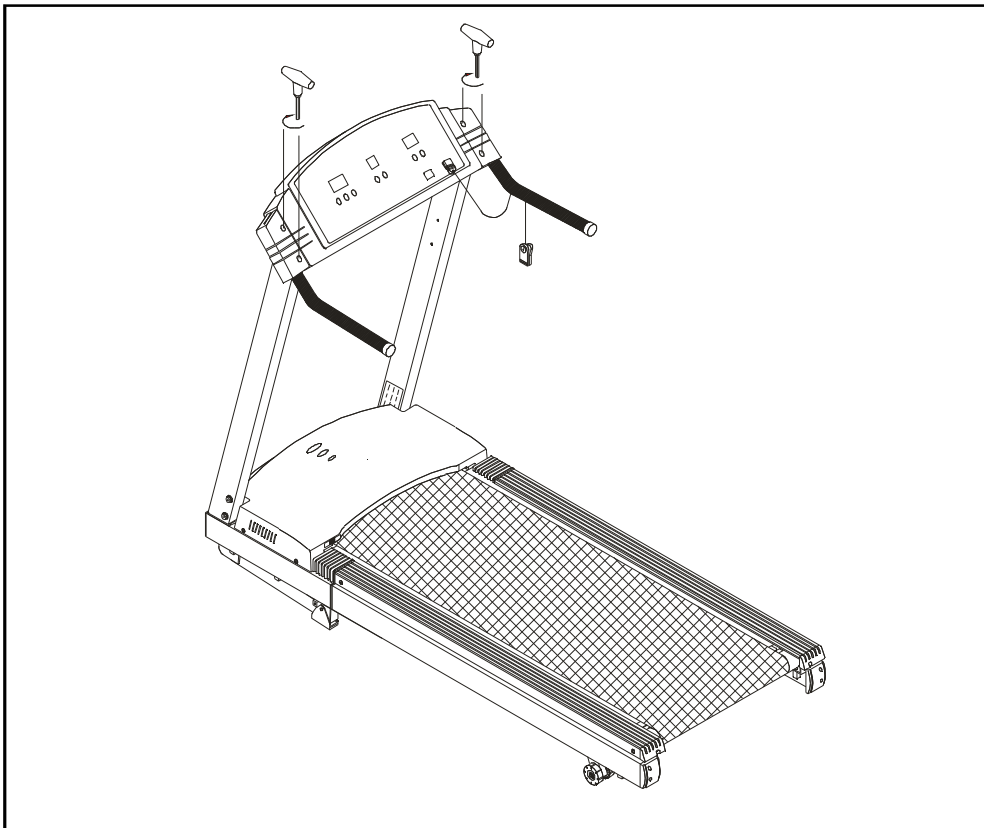

Fig.6
8. Then, secure with screws provided (see Fig. 6).